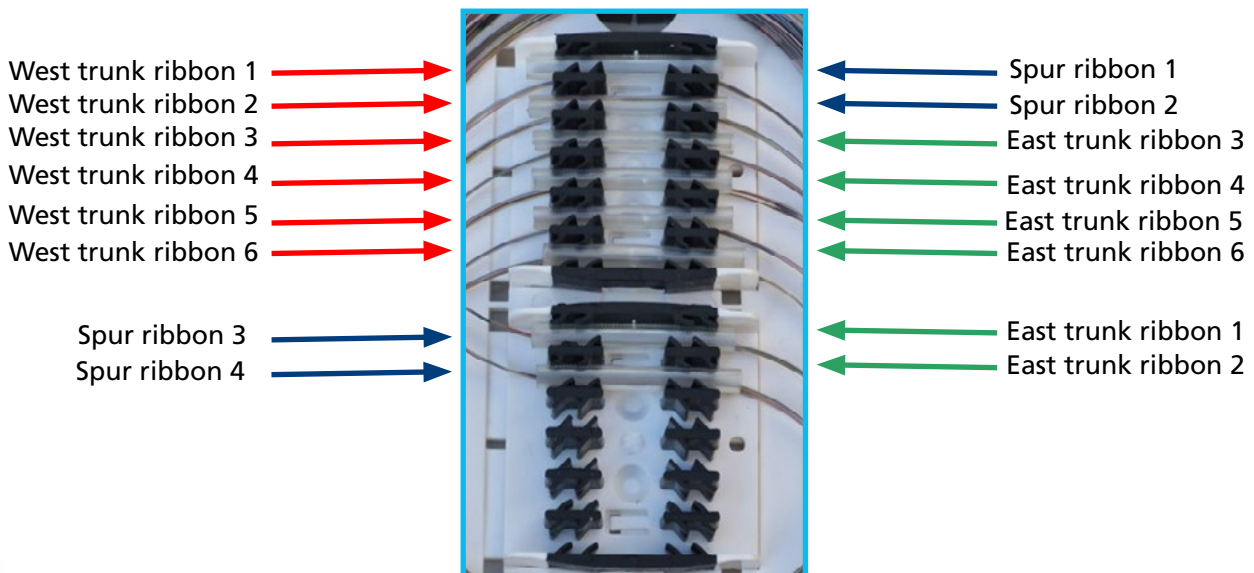

Figure 46 - Single spur
4. Loop the fibres in the splice tray to create a minimum of 1m of slack in each direction. Splice the single spur cable as detailed in **figure 46**.